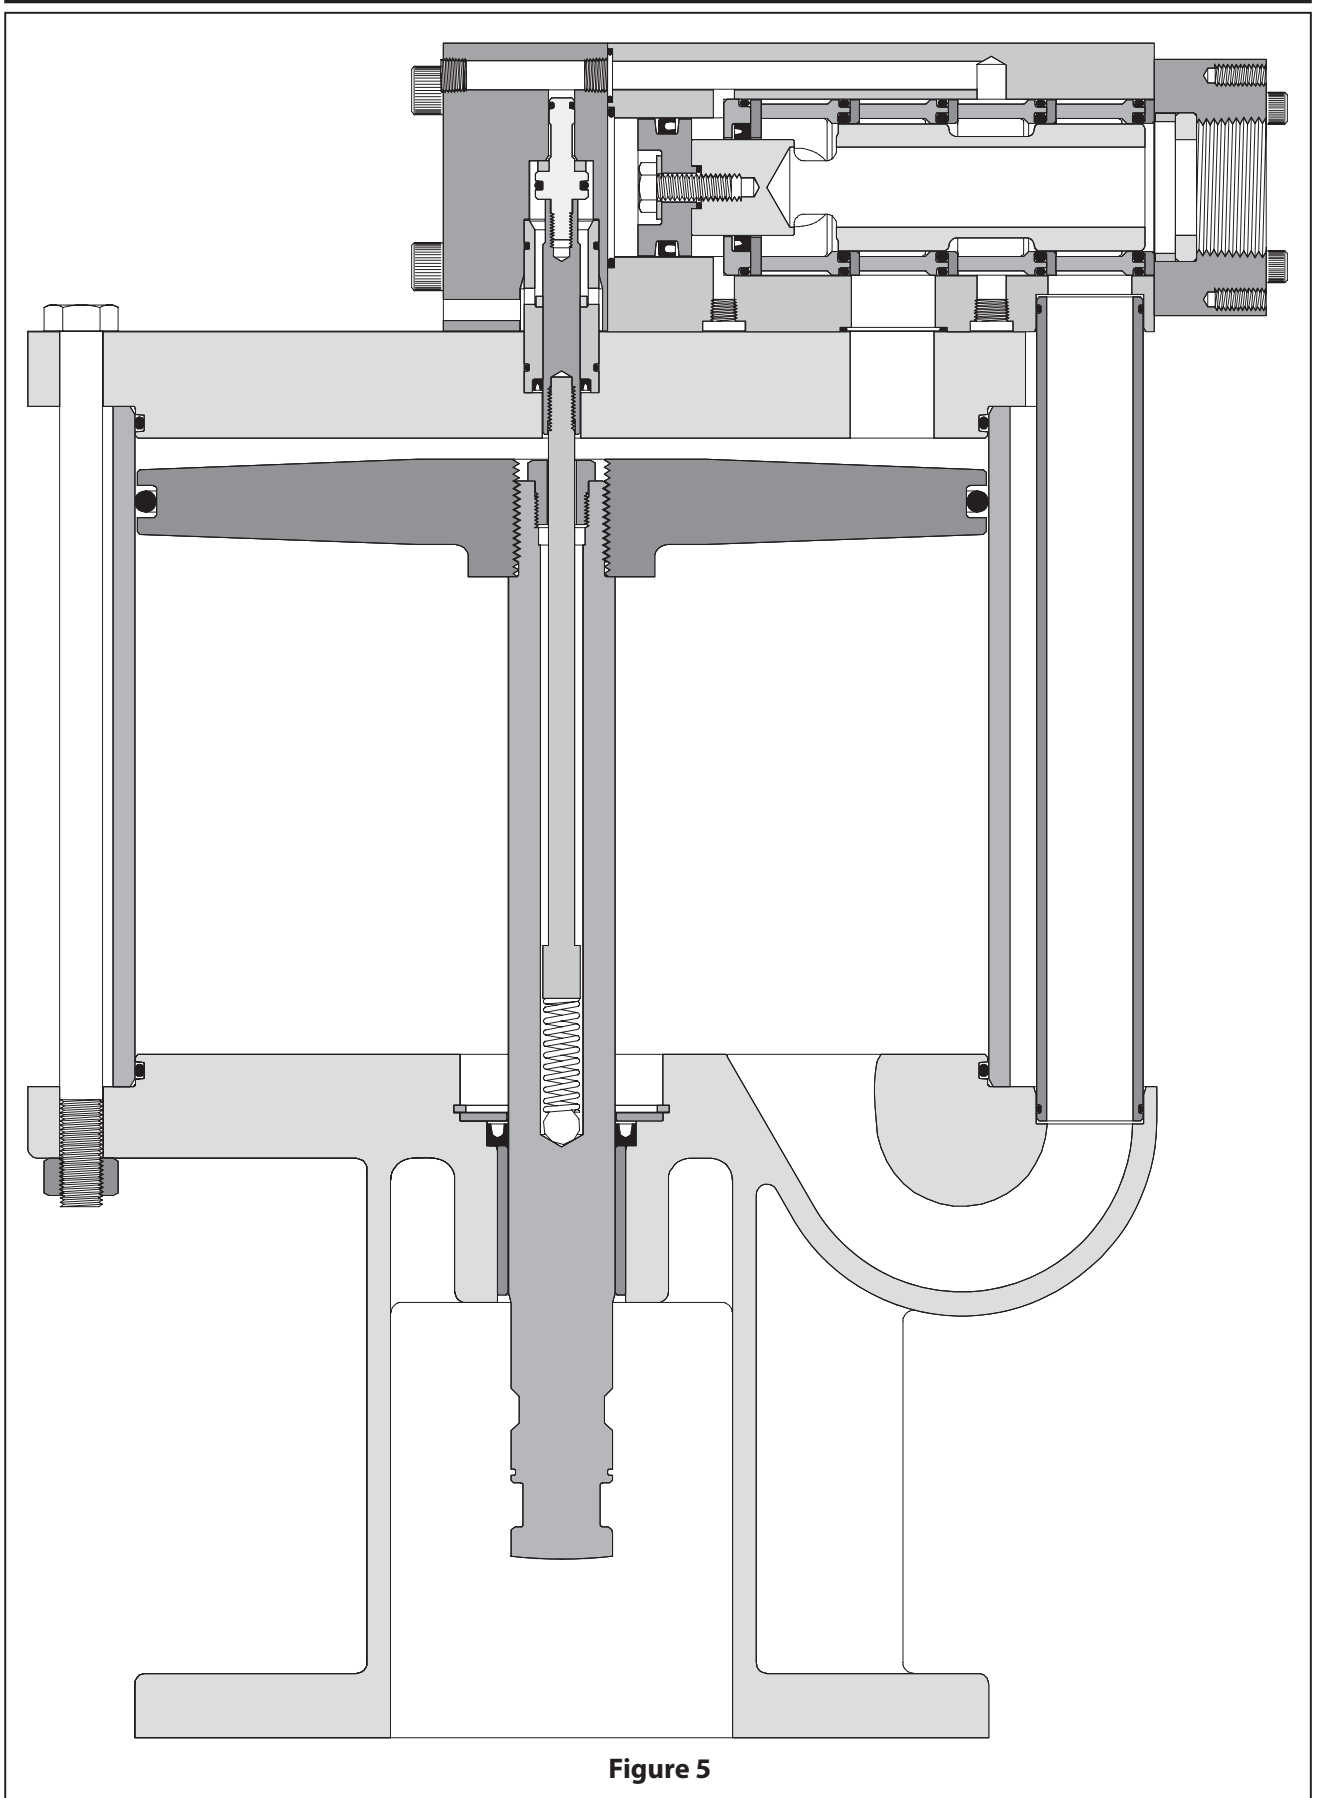

Figure 5
21. Assemble one (15) "O" ring and the (16) washer into the (30) block manifold and against the (13) gland (see figure 5).
22. Assemble four (15) "O" rings, four (18) "O" rings, four (17) spacers and four (19) washers into the (30) block manifold (see figure 5). NOTE: Assemble the (19) washers with the i.d. lips toward the (18) "O" ring. Position the (17) spacers so the legs are not aligned with the 3/4 - 14 N.P.T. exhaust ports in the (30) block manifold.
23. Clean the threads in the (20) spool.
24. Apply grease to the exterior of the (20) spool and assemble it into the (30) block manifold. Align the slot in the (20) spool with the 3/4 - 14 N.P.T. exhaust port in the side of the (30) block manifold.
25. Assemble the (51) spacer into the (31) cap assembly and assemble the (31) cap assembly to the (30) block manifold, securing with four (32) cap screws.
26. Assemble the (12) "U" cup into the groove in the (11) piston, with the lips pointed toward the "boss" side of the piston.
27. Assemble the (10) "O" ring onto the boss portion of the (11) piston.
28. Clean the threads on the (8) cap screw.
29. Assemble the (8) cap screw and (9) washer thru the (11) piston.
30. Apply Loctite 271 to the threads of the (8) cap screw then thread it into the (20) spool.
31. Insert a 1/4" rod or similar device thru the 3/4 - 14 N.P.T. exhaust port in the side of the (30) block manifold and thru the slot of the (20) spool to prevent it from rotating, then tighten the (8) cap screw. Remove the 1/4" rod.
32. Assemble the (28 and 29) "O" rings into the (30) block manifold.